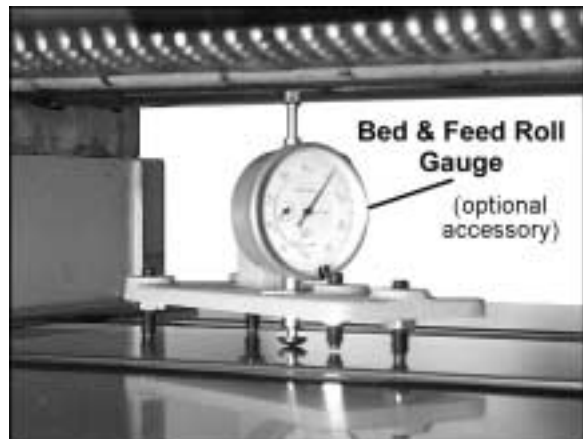

Figure 12
2. Place a dial gauge under a knife in the cutterhead. (Figure 12 shows a Bed and Feed Roll Gauge – accessory #2230002 – which can be purchased from your dealer.)